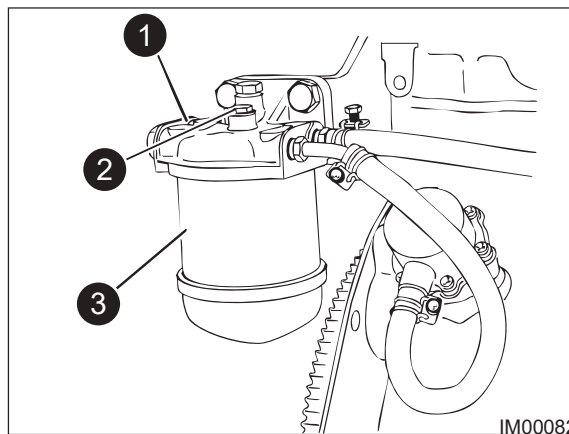

Fig: 11.20 - Fuel Filter
4. Clean the outside of the fuel filter assembly (Item 1, Fig: 11.20).
5. Remove setscrew (Item 2, Fig: 11.20).
6. Remove the canister (Item 3, Fig: 11.20). Ensure that any fluid is drained into a suitable container.